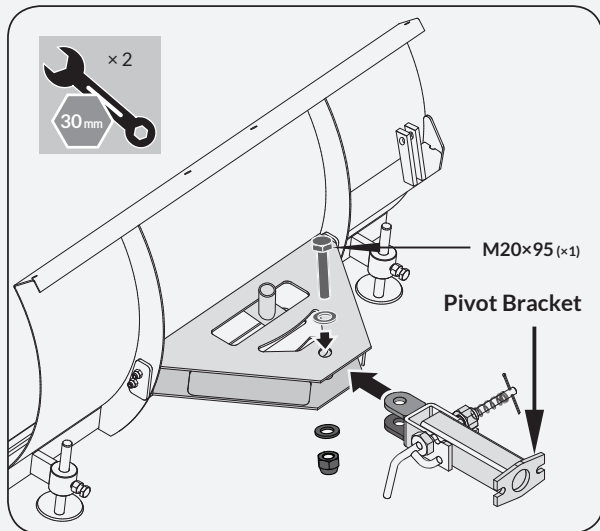

Figure 1b
2. Position the pivot bracket inside the mounting bracket and align with mounting bracket holes. Secure with M20×95 hex bolt, washers and nut. (See **Figure 1b**)